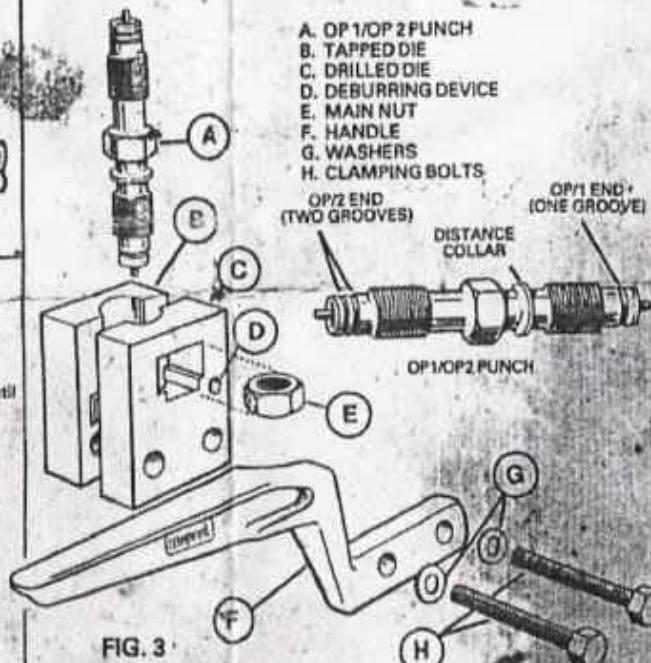

FIG. 3
(See Fig. 3)
Partially assemble EFK tool by loosely bolting the handle to the two halves of the die (Fig. 3 (B & C)) using washers (G) and clamping bolts (H). Apply a small quantity of the special purpose grease to the OP1 end of the OP1/OP2 punch (A) such that the dies surrounding the pin on the front of the OP1 end is partially filled. Then, with both clamping bolts (H) loose, insert main nut (E) through the aperture in the front of the drilled dies (C) until the greased OP1 end of the punch can be screwed into the main nut (E) through the hole formed in the top of the dies (B & C).
After placing the required tube connector over the end of the new pipe, feed the new pipe through the hole formed in the bottom of the dies (B & C) see Fig. 2, until the greased pin on the front of the punch Fig. 3 (A) engages with the bore of the pipe (this can be seen to happen through the small aperture underneath the main nut (E)). Whilst pushing the new pipe firmly into the dies (B & C) and onto the pin, screw down the punch (A) until the back of the "distance collar" is flush with the top of the dies (B & C). Fully tighten clamping bolts (H). The pipe is now in the correct position for flaring.